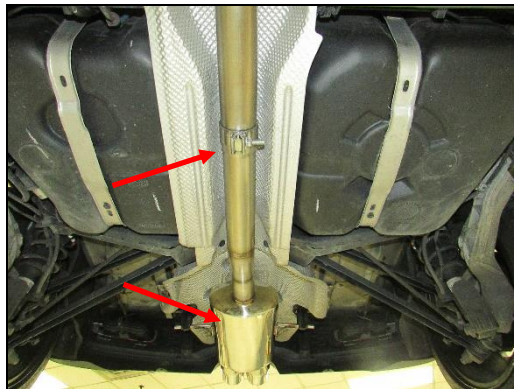

Figure 8
3. Slide on the supplied (x1) 2.5" band clamp. Slide on the Blackheart muffler (**Figure 8**).